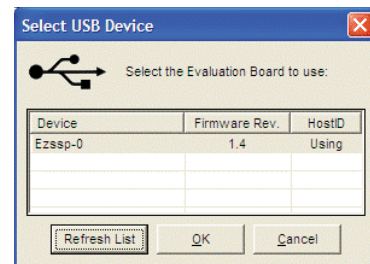

Figure 2. Select USB Device Window
5. If the evaluation board is not automatically detected when it is connected, choose **Select Evaluation Board** from the **I/O** menu, and then select Ezssp-0, Ezssp-1, or Ezssp-2 (see Figure 2).